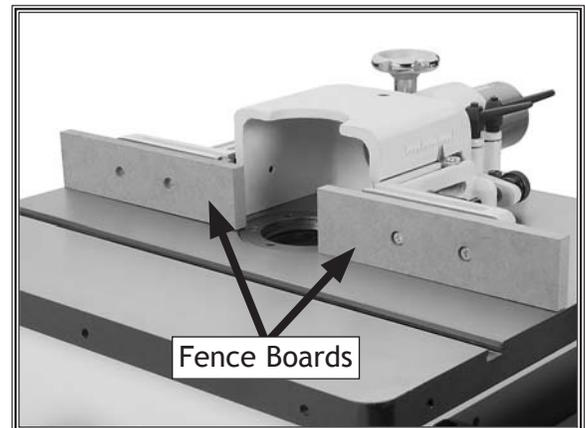

Figure 16. Fence boards installed.
7. Slide the fence board assemblies into the front slots of the fence mounts, then tighten the screws to hold them in place, as shown in **Figure 16**.